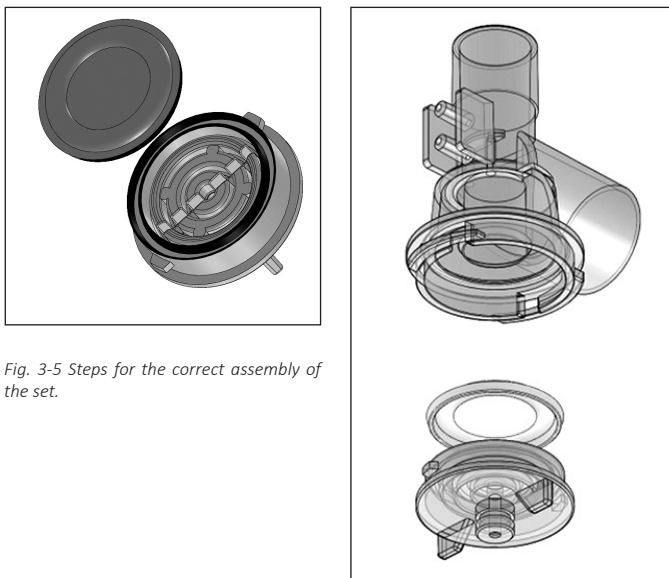

Fig. 3-5 Steps for the correct assembly of the set.
- Place the diaphragm in the expiratory set cap, matching the edge of the diaphragm in the space delimited by the circumferences shown in Fig. 3-5 left. Carefully keep the ring-shaped piece pointing downward when the set is vertical (Fig. 3-4).
- Place the cap on the set body (Fig. 3-5 right). To do this, place the cap such that the perimeter flanges line up with the notches on the top side of the set body.